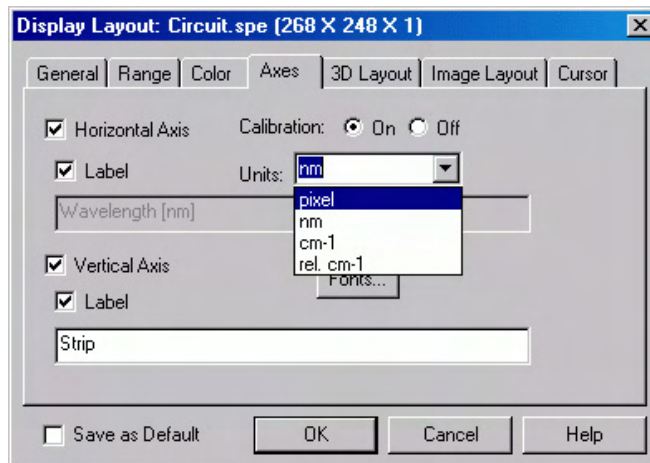

Figure 111. Axes tab page
1. Open the Display Layout dialog box and open the Axes tab page (Figure 111). Note that Horizontal Axis, Vertical Axis, and the Label box for each are all checked (If unchecked, the corresponding axis or label would not be displayed.)